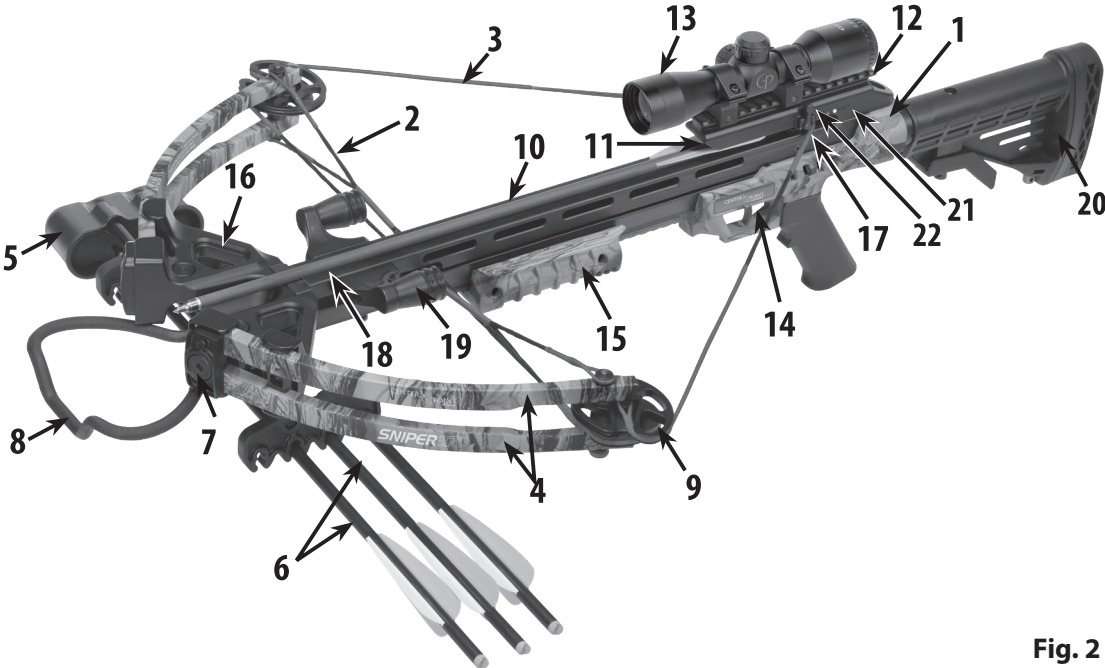

Fig. 2
M. Stirrup Screws (3)
3. LEARNING THE PARTS OF THE CROSSBOW (See Fig. 2)